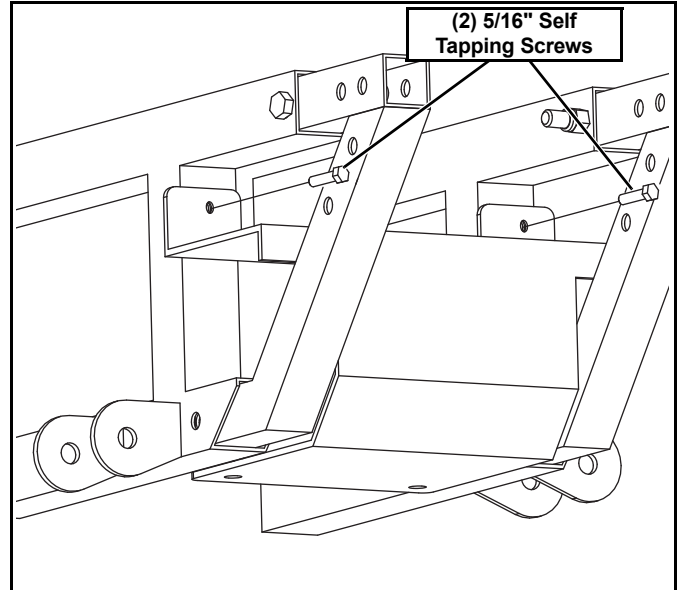

Figure 5
- Remove the two upper screws in the Center Shield. (See Figure 5.) Retain screws if mounting kit is removed.